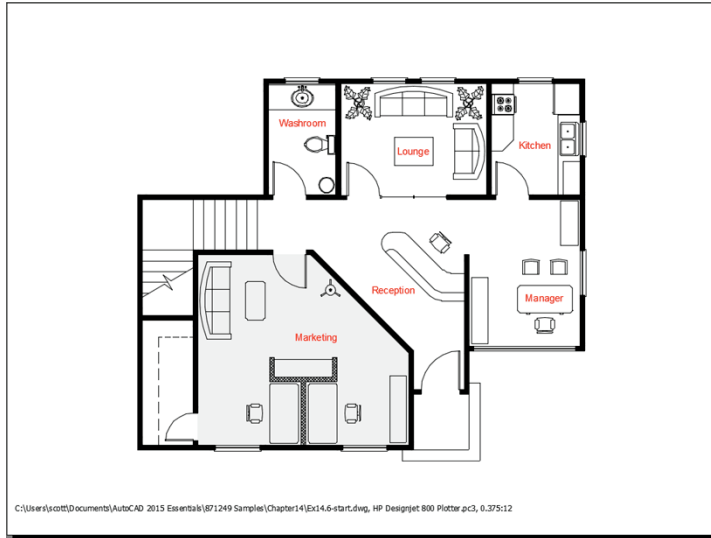

FIGURE 14.17 What you see is what you get in the plot preview window.
- Click the Preview button in the lower-left corner of the Plot – Model dialog box. Click Continue in the Plot – Plot Scale Confirm dialog box that appears. A preview window temporarily replaces the user interface (see Figure 14.17).